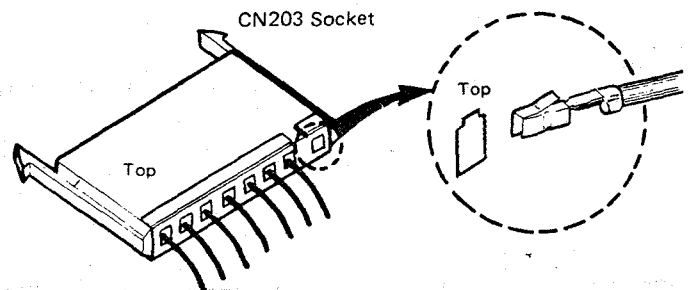

Fig. 8-5-9
- Insert the three pins connected to the three wire leads from the auto iris mechanism assembly to the CN203 socket following the notes previously made. (Fig.8-5-9)